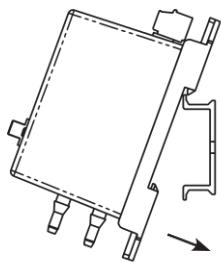

Figure 3: Catch the mounting hook on the edge of the DIN Rail, then rotate into place.
2. Catch the mount hook on DIN rail as shown in Figure 3.